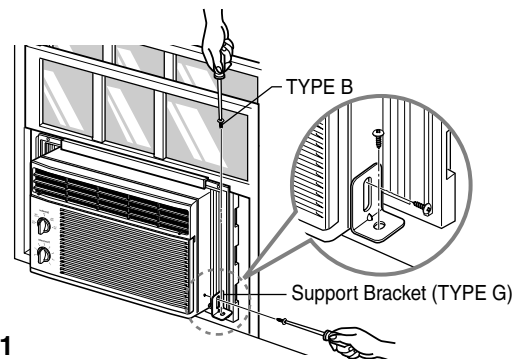

Figure 31
- b. Fasten the support bracket (TYPE G) using a removed screw. Attach the support bracket (TYPE G) in the inner window sill with a screw (TYPE B), as shown Figure. 31.